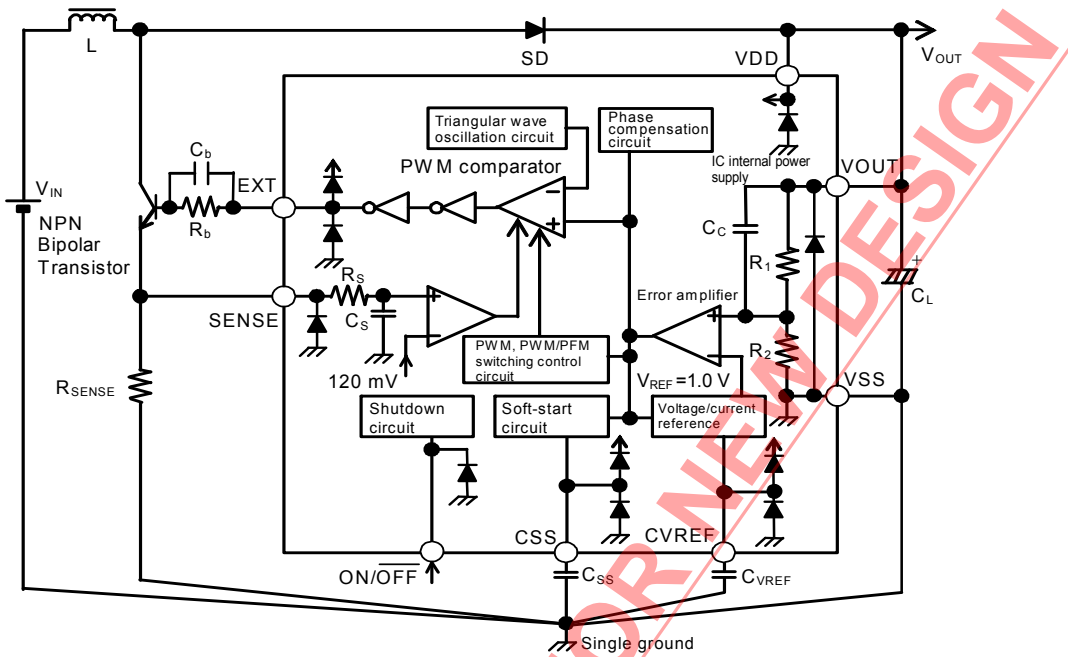

Figure 16 Output Voltage Fixed Output Type
Figures 16 and 17 in "■ Standard Circuits (2) Using Bipolar Transistors" show sample circuit diagrams using Sanyo Electric Co., Ltd. 2SD1628G for the bipolar transistor (NPN). The driveability for increasing the output current by means of a bipolar transistor depend on the  $h_{FE}$  and  $R_b$  values of that bipolar transistor.
In addition, if a speed-up capacitor ( $C_b$ ) is inserted in parallel with the resistance ( $R_b$ ) as shown in Figures 16 and 17, the switching loss will be reduced, leading to a higher efficiency.